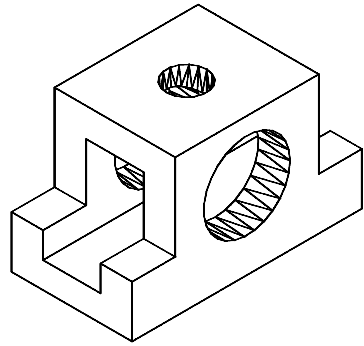

Figure 26-58 Final solid model for Example 1
22. Subtract this cylinder from the model. The final model should look similar to the one shown in Figure 26-58.